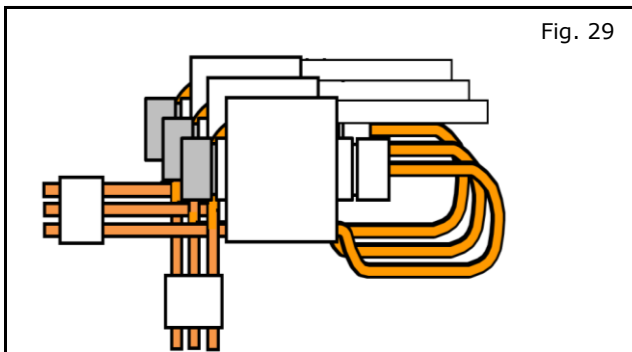

Fig. 29
- 30) Securing multiple accessory taps (Fig. 29).